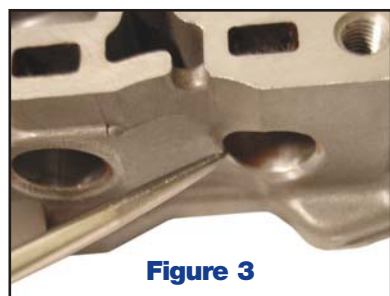

Figure 3
3. Use de-burring tool or bearing scraper to complete the .020" to .030" wide chamfer all the way around the bore edge where the valve body contour may have caused the factory chamfer to be less than a full circle (see Figure 3).